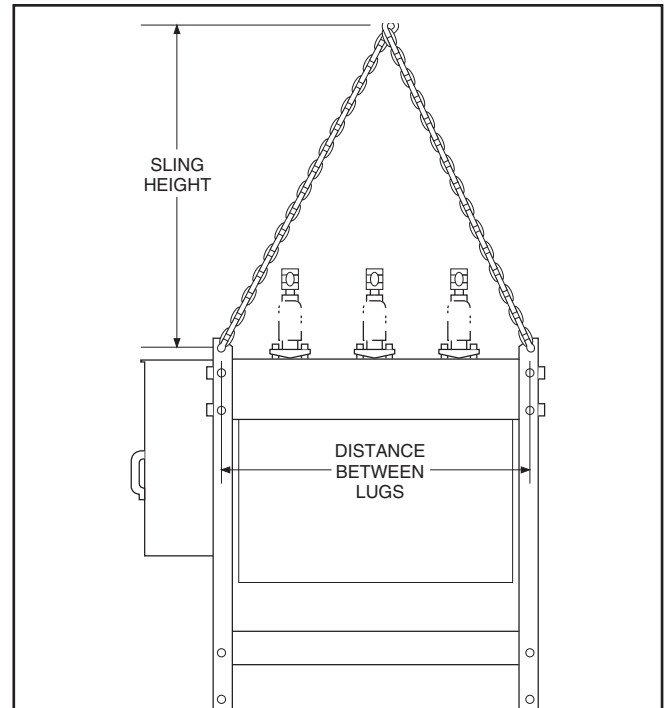

Figure 2. Lifting the recloser.
3. Mount the recloser. Use the lifting lugs located on the frame and follow approved procedures. See Figure 2.